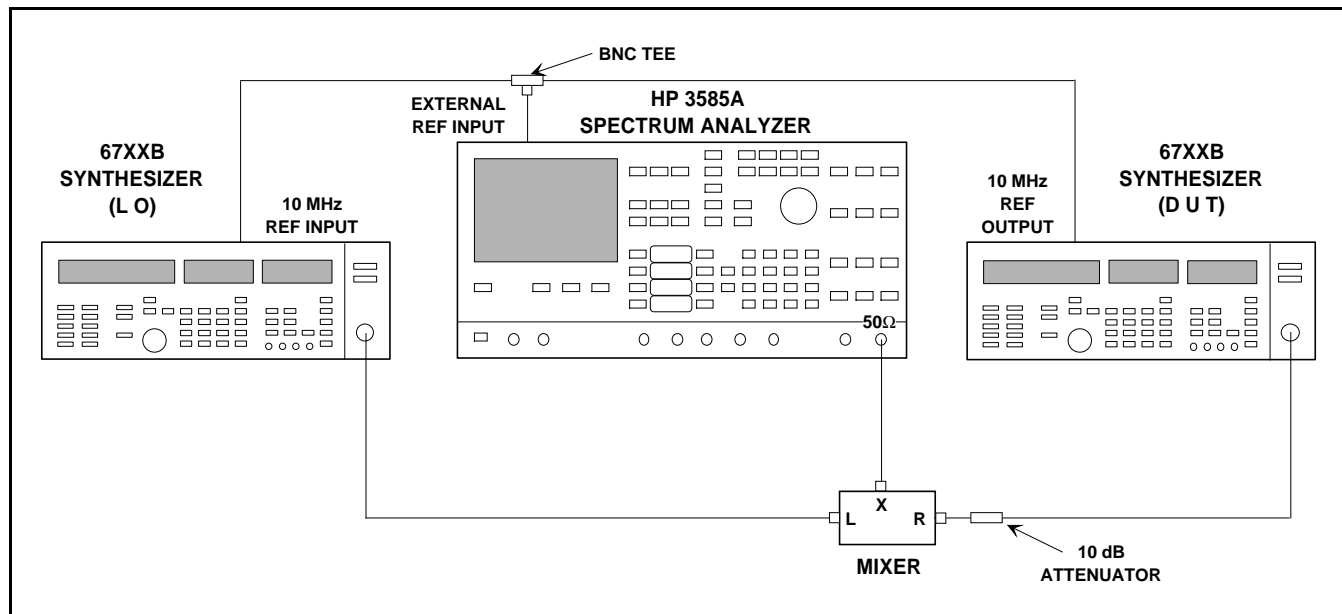

Figure 2-12. Equipment Setup for Single Sideband Phase Noise Test
1. Connect the equipment, shown in Figure 2-12, as follows: